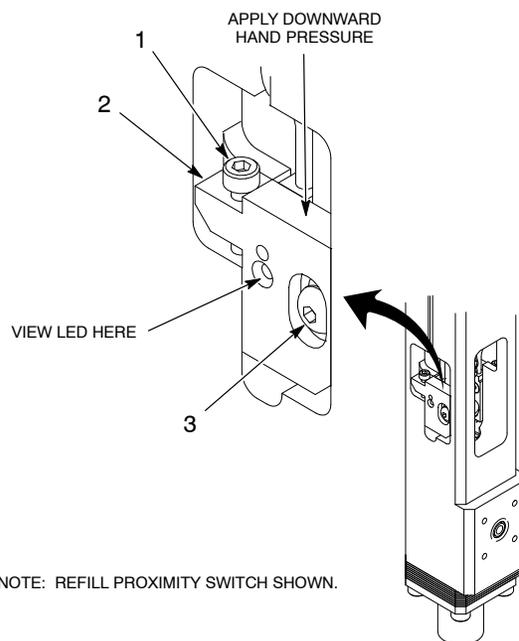

Figure 5 Typical Proximity Switch Adjustment
2. See Figure 5. Loosen the screw (3) until the switch plate (2) moves freely.
3. While applying downward hand pressure on the switch plate (2), perform the following:
- a. Using the ball end of the hex key, turn the adjusting screw (1) clockwise until the LED goes out.
- b. Slowly turn the adjusting screw (1) counter clockwise until the LED comes on. Turn the adjusting screw another  $\frac{1}{4}$  turn counter clockwise.
- c. Tighten the screw (3) to 14 in.-lb (1.3 N•m).
- a. Using the ball end of the hex key, turn the adjusting screw (1) counter clockwise until the trigger point is past and LED is off.
- b. Slowly turn the adjusting screw (1) clockwise until the LED lights. Turn the adjusting screw another  $\frac{1}{4}$  turn clockwise.